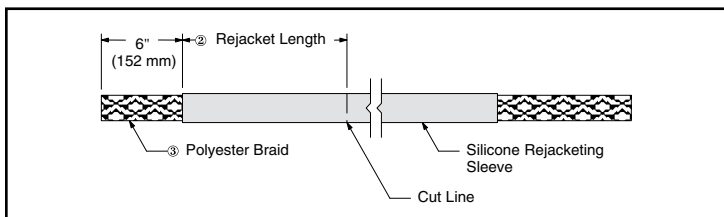

Figure 2
3. Select end of assembly with shorter (6 " (152 mm)) polyester braid exposure (③, *Figure 2*). Using scissors or sharp knife, cut sleeve/ braid assembly to desired length (② , *Figure 2*).
4. **Additional Rejacketing Sleeve Assembly Cuts:** Pull 6" (152 mm) of inner polyester braid out beyond silicone re-jacketing sleeve (③, Figure 2). Cut sleeve/braid assembly to desired length.